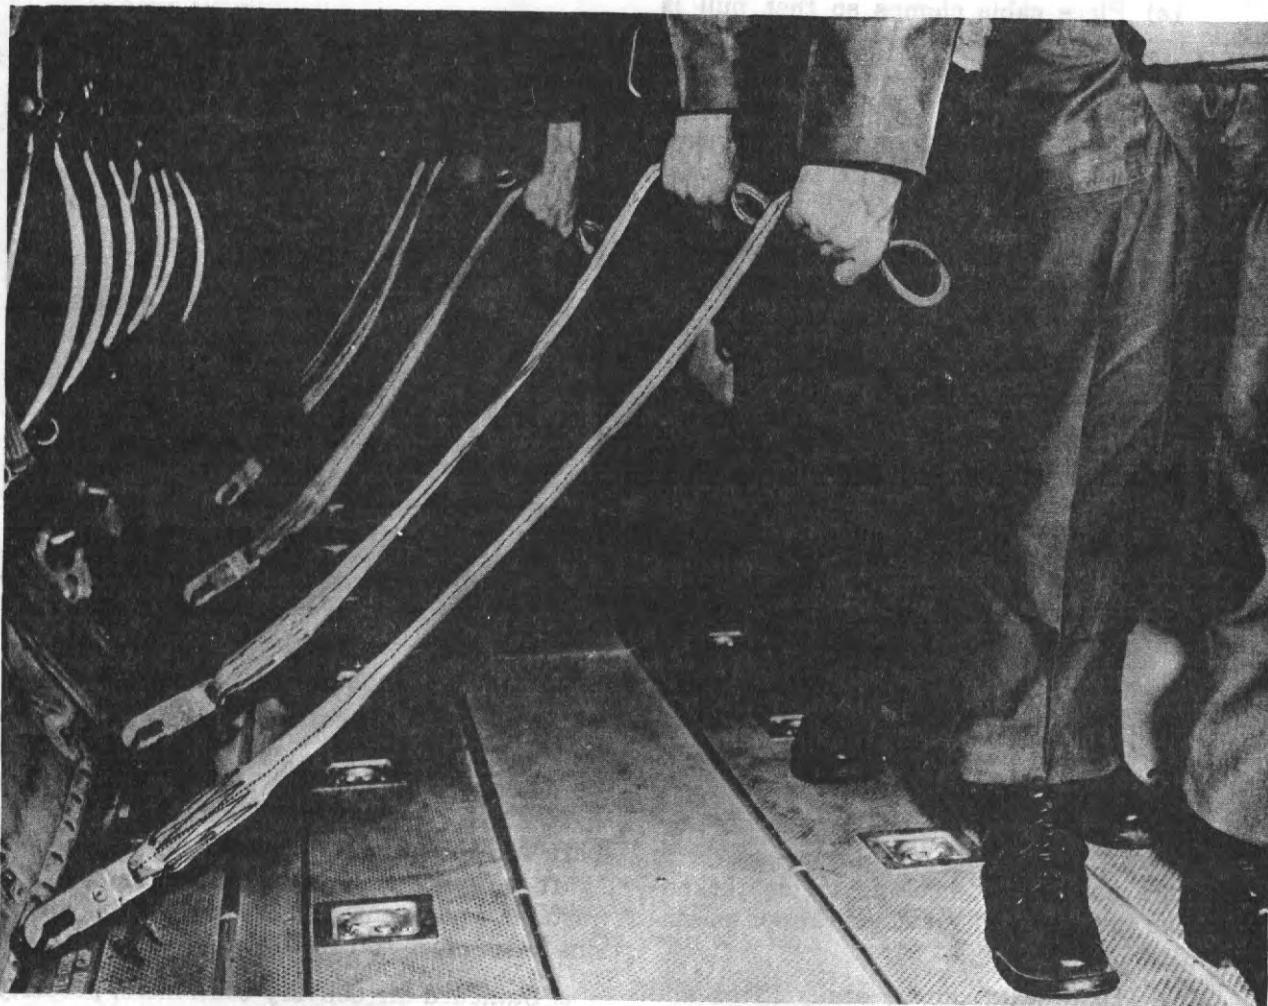

Figure 95. Position after hook up with reverse bight (CH-21).
(3) *STARBOARD SIDE HOOK UP.* The parachutists unfasten their static line snap hook from the top carrying handle of their reserve parachutes, hook their static line snaphooks to the anchor line cable, and take a reverse bight in the static line with their right hand (fig. 95). They move as far to the rear of the aircraft as possible, keeping their relative position in the stick.
(5) *PORTSIDE HOOK UP.* Conducted in accordance with (3) above, with the exception of movement to the rear.